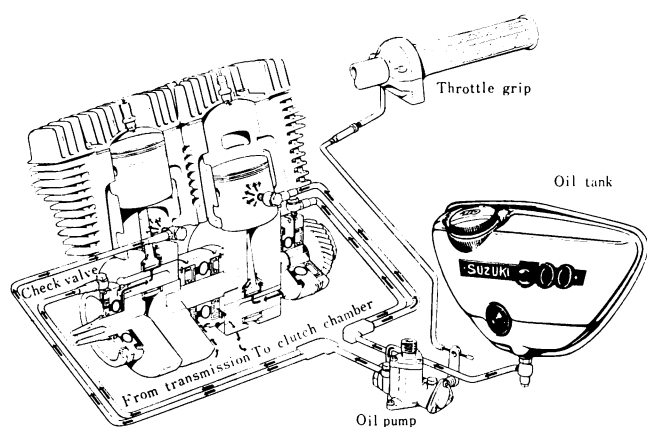

Fig. 14-4 CCI lubrication system (U.S. Suzuki Motor Corporation)
**C.C.I. or Direct Bearing Lubrication Systems.** Developed by Suzuki, C.C.I. is a abbreviation of "Crankcase/Cylinder Injection" lubrication. This system supplies the correct amount of oil under pressure directly to the critical points of the engine. Rather than simply routing one oil line to the port, oil is supplied under pressure through two oil lines and is completely separate from the gasoline supply. Each oil line is divided at a junction, and one of these split lines serves an outside main bearing and cam-rod bearing, while the other serves the cylinder wall and wristpin. A large center main crankshaft bearing shares oil with the clutch and transmission on a gravity feed basis (Fig. 14-4).